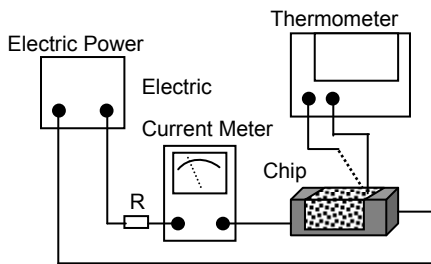

Fig. 5.3.3-1
- d. Definition of Rated Current (I_r): I_r is direct electric current as chip surface temperature raises just 20℃. against chip initial surface temperature(T_a). (see **Fig. 5.3.3-2**):